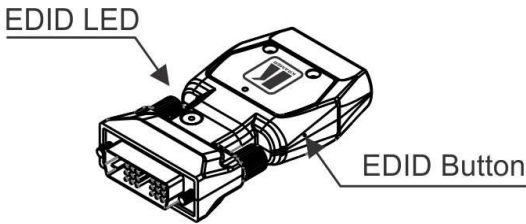

Figure 1: The Auto EDID Button on the 616T
3. Push the EDID button (illustrated in Figure 1), using a thin screwdriver. The status LED lights.